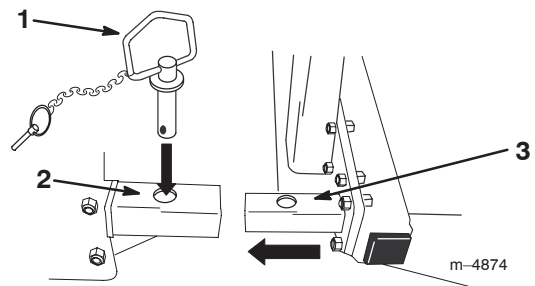

Figure 2
4. Remove the pins from the arms of the cultivator (Fig. 2).
5. Slide the arms on the roller into the arms on the cultivator and secure them with the pins (Fig. 2).